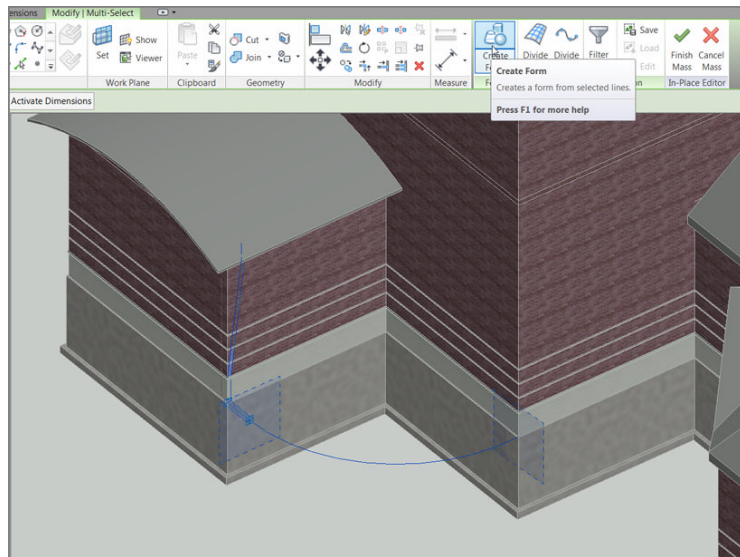

FIGURE 16.46: Selecting the objects and creating the form
6. Click the Create Form button, as shown in Figure 16.46.